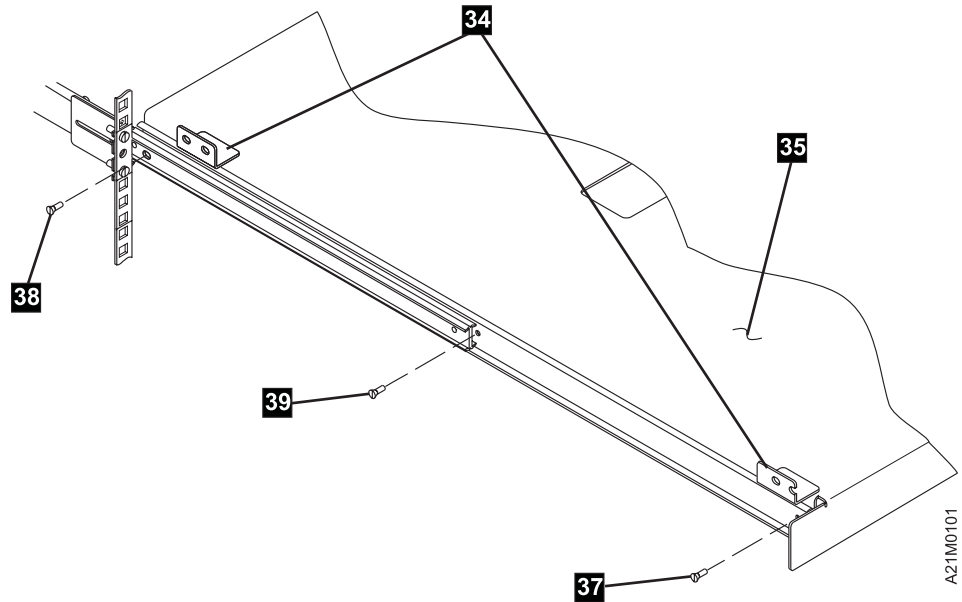

Figure 39. Attaching Tray to Left-Hand Slide
- ___ Step 9. See Figure 39 on page 77 to attach the tray to the left-hand slide.
- ___ Step b. See Figure 39, slide the tray out to its fully extended locking position.